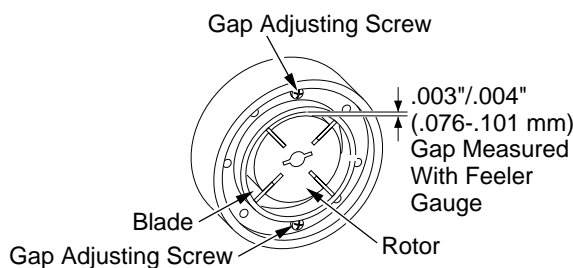

Figure 27 - Gap Adjusting Screw Locations
9. Check gap on rotor. Adjust to .003"/.004" (.076-.101 mm) if needed (see Figure 27).